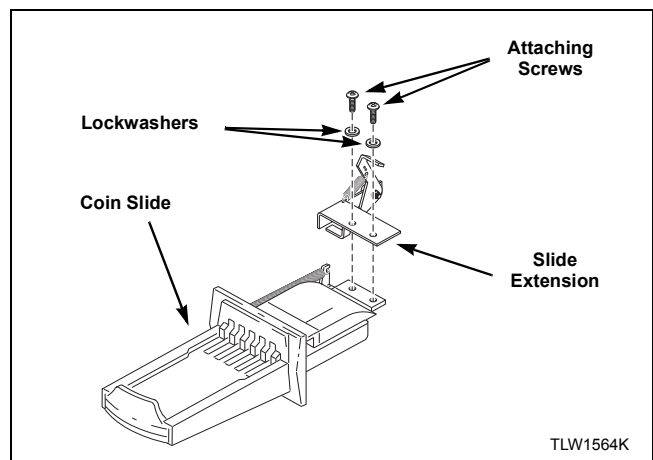

Figure 27
1. Install slide extension onto top of coin slide using two remaining screws and lockwashers. Refer to *Figure 27*.
3. Install slide extension onto top of coin slide using two screws and lockwashers. Refer to *Figure 27*.